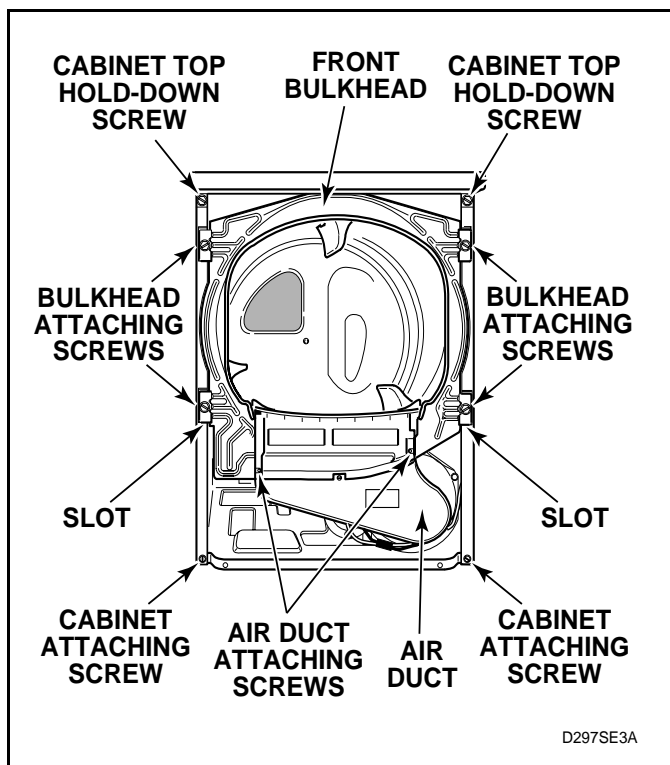

Figure 46
- Remove four screws holding bulkhead to front flange of cabinet and lift complete bulkhead assembly out of slots in cabinet. See *Figure 46*.
- f. Remove four screws holding bulkhead to front flange of cabinet. Then, lift complete bulkhead assembly out of slots in cabinet. See *Figure 46*.
- f. Remove four screws holding bulkhead to front flange of cabinet. Then lift complete bulkhead assembly out of slots in cabinet. See *Figure 46*.
- g. Remove two cabinet top hold-down screws. See *Figure 46*.
- e. Remove two cabinet top hold-down screws. See *Figure 46*.
- h. Remove four screws holding bulkhead to front flange of cabinet. Then, lift complete bulkhead assembly out of slots in cabinet. See *Figure 46*.